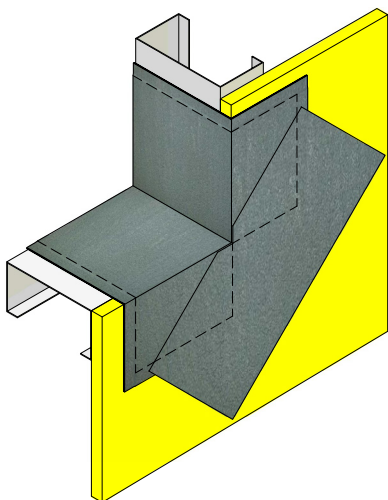

Figure 8
4. Apply additional Finestop RA/RS/VB over the areas to receive additional Sheathing Fabric. (See Figure 8)